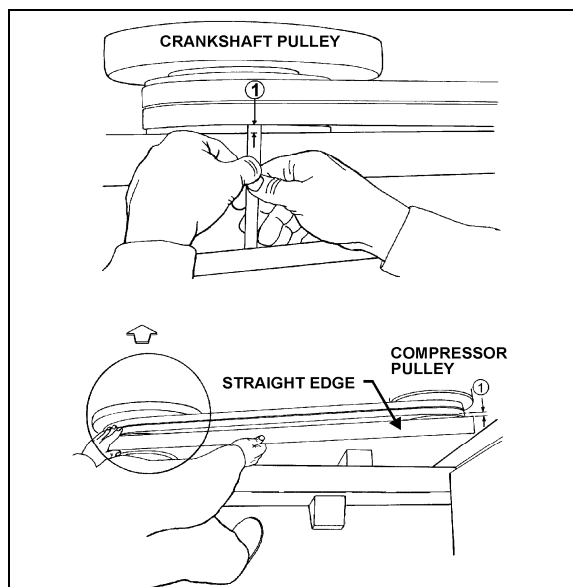

FIGURE 27: COMPRESSOR ALIGNMENT
2. Check the distance between each extremity of straight edge (1, Fig. 27) and drive belt. If they are different, loosen the pillow block compressor bolts and with a hammer, knock compressor pillow block to slide it, in order to obtain the same distance; then tighten bolts.